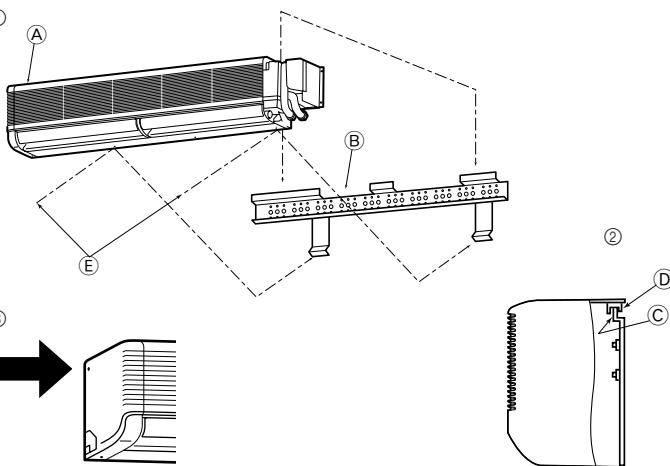

Fig. 3-20
3.11. Mounting the indoor unit (Fig. 3-20)
- ① Make sure to hang the metal catches of the indoor unit over the hooks of the mount board.
- ② When the piping has been completed, use the securing screws to fix the indoor unit on the mount board.